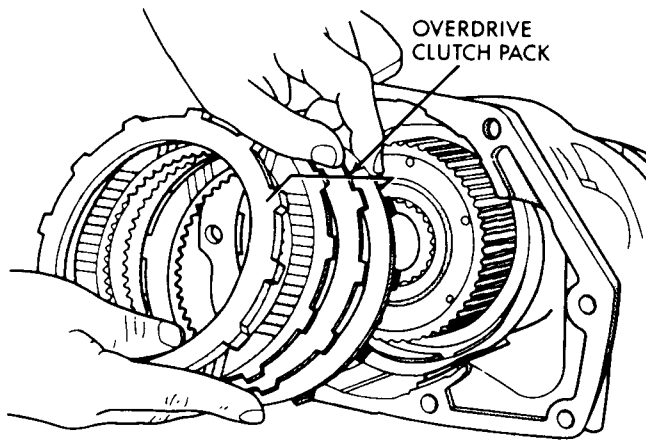

Fig. 4—Overdrive Clutch
(2) Take a close look at each overdrive clutch component for signs of wear. Replace if necessary (Fig. 4).